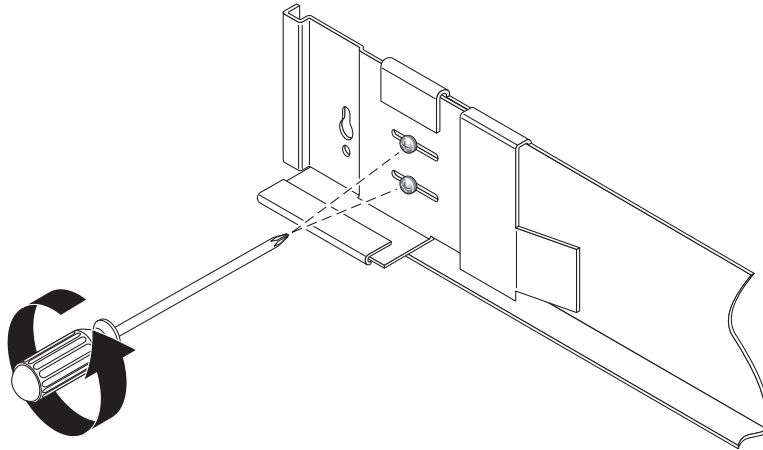

FIGURE 2-2 Loosening the Rail Screws to Adjust the Rail Length
1. Use the No. 2 Phillips screwdriver to loosen the side-rail screws, and adjust each rail to its maximum length (FIGURE 2-2).